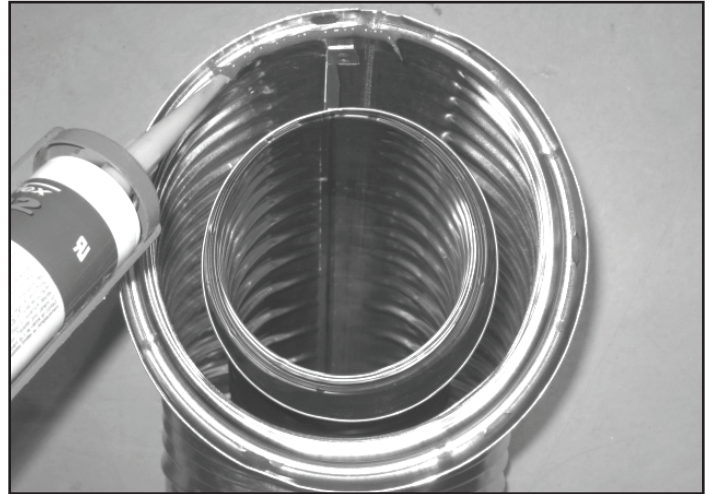

Figure 7.1 - High Temperature Silicone Sealant
- Apply a bead of silicone sealant (300°F minimum continuous exposure rating) inside the female outer pipe joint prior to joining sections. See Figure 7.1.